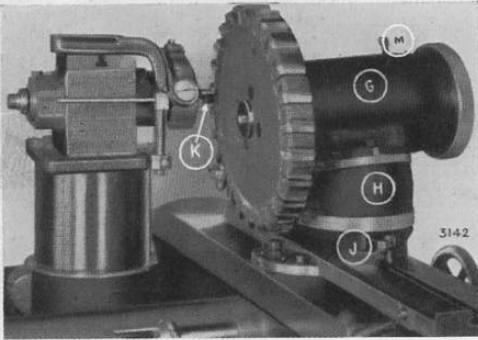

Fig. 79
**Grinding the Face of the Teeth, Figure 79.**